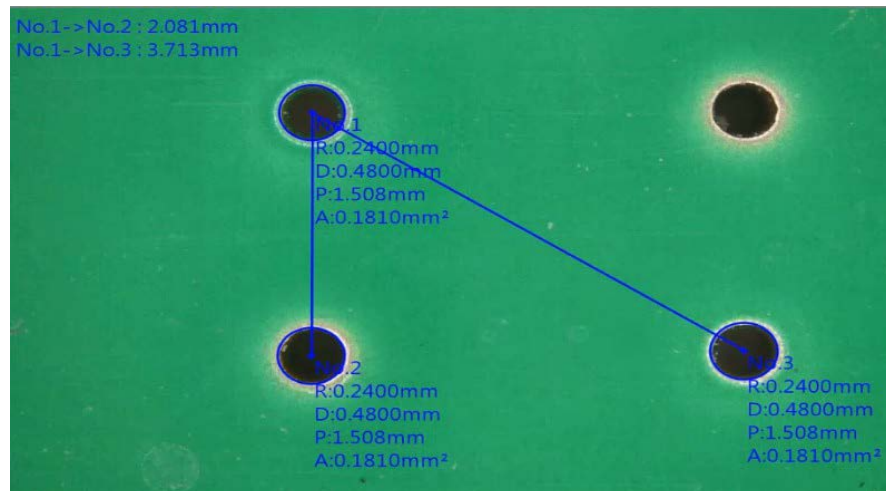

Fig 5-14 Optional Two Center Distance
- Optional Two Center Distance  : This function is auto-calculate the chosen two circles. Refer to Fig 5-14, example, 4 circles are drawn, choose "Current Center" as golden sample, then choose "Sequence Center" to measure the distance between Current Center to Number (No) of Circles. The measurement result will show on left upper corner.